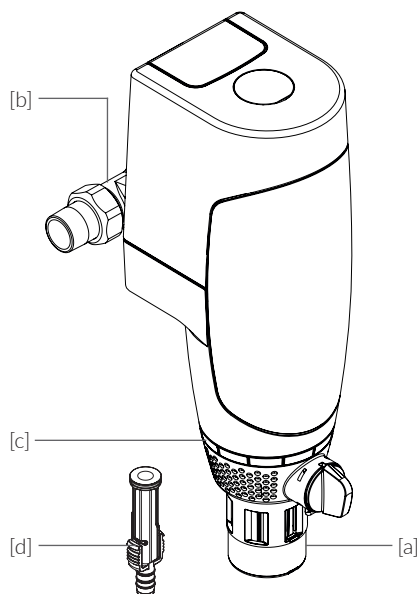

Fig. 5.1
Hose nozzle [d] (Fig. 5.1)
(Fig. 5.1)
- / Alternatively, the backwash water can also be discharged via a hose. In this case, a hose nozzle is included in the scope of delivery [Fig. 5.1, d].